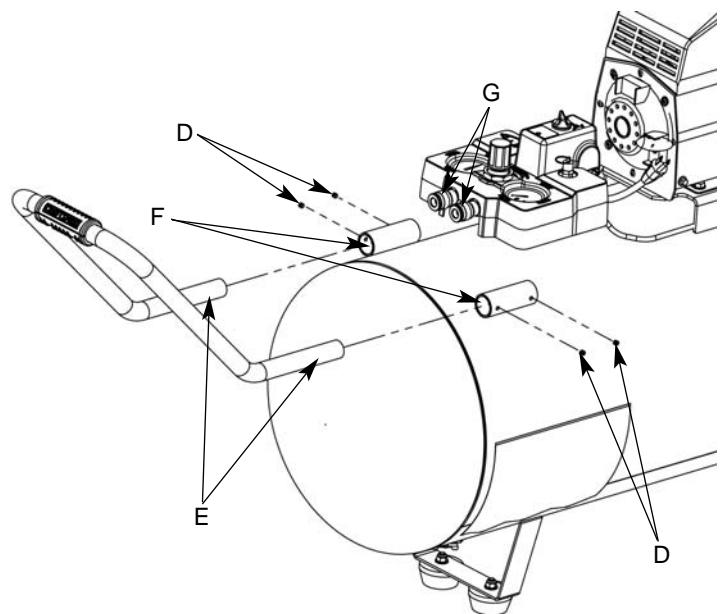

Fig. 2
3. For horizontal compressors only, install the handle by loosening the set screws (**D**) and then placing the handle ends (**E**) into the handle brackets (**F**) and secure with the set screws (**D**) (see Fig. 2). Tighten screws using a size 3mm hex wrench (not included).